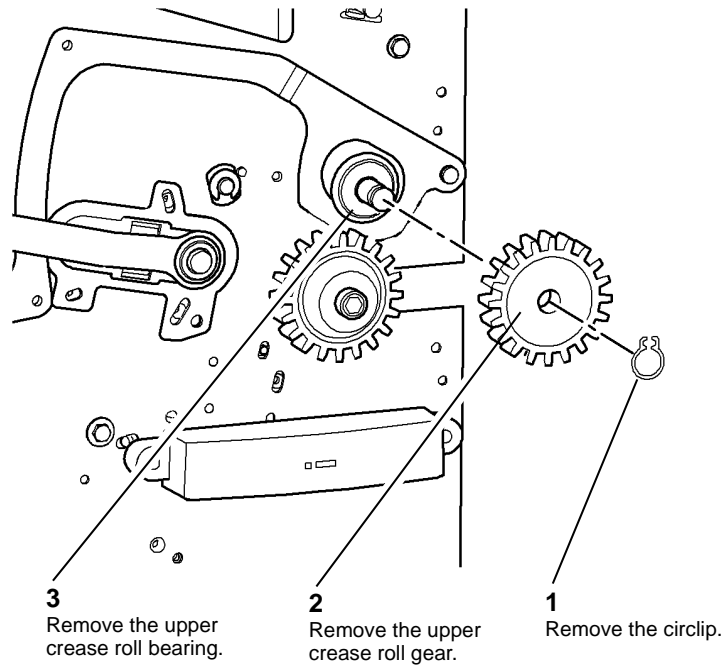

Figure 2 Preparation
12. Figure 2, prepare to remove the upper crease roll.